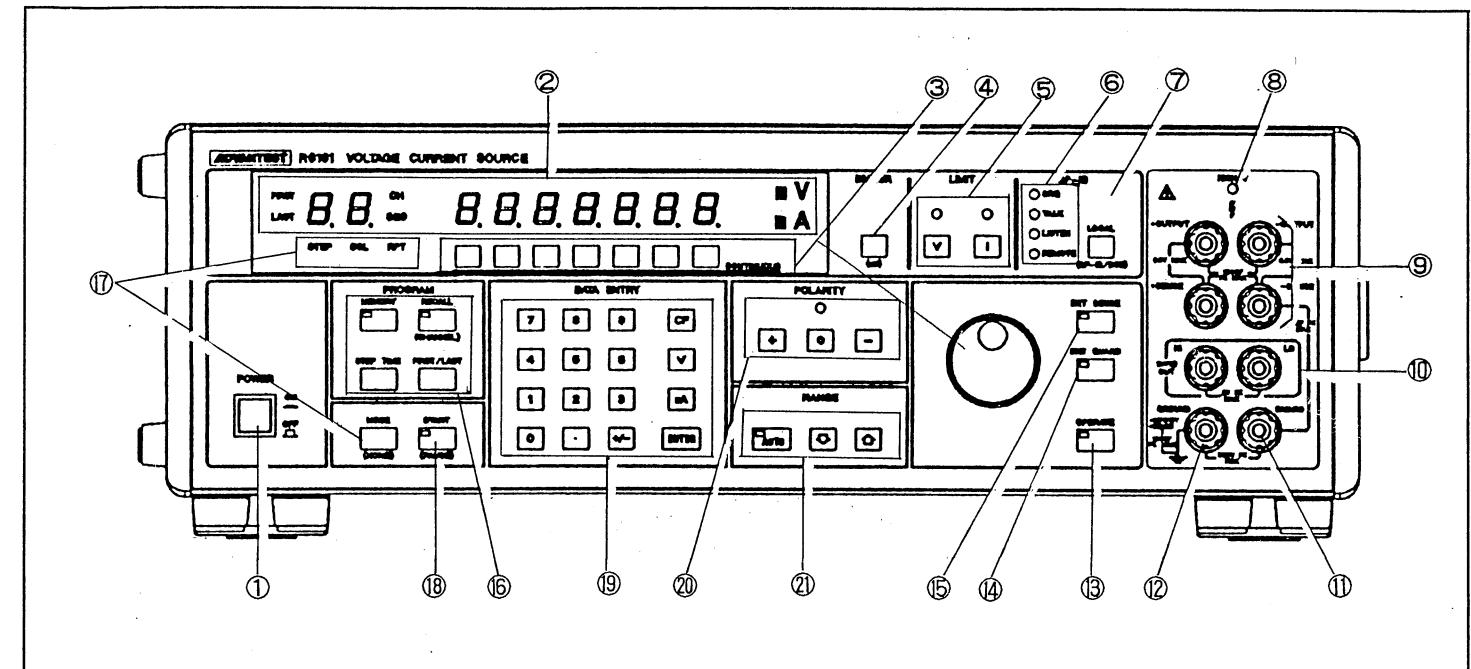

Figure 2-2 Explanation of the Front Panel
The Generator front panel also has the GROUND terminal of the binding post (see ② of Figure 2-2). However, you must use the rear-panel GND terminal for frame grounding.
④ Connector for AC power supply